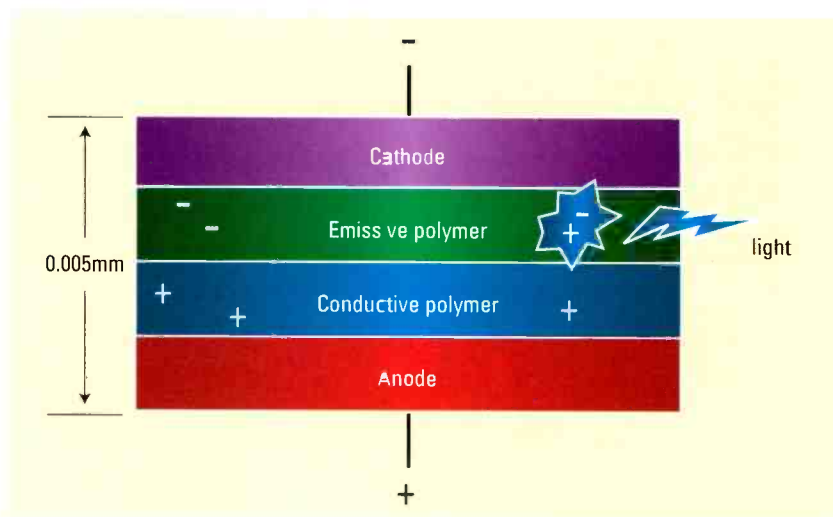

Figure 1. OLED technology.
**Figure 1.** In PBS' Station Services Platform (SSP), files are "pitched" to stations over an IT-based satellite file transfer system. The SSP uses a transcoding engine to deliver the files in a format compatible with a station's local video server.
(Some OLED display backplanes are built from silicon as well.) In OLED screens, an applied voltage transports electrons and electron holes into the emissive layer. (See Figure 1.) Light is produced when the electrons and holes recombine.